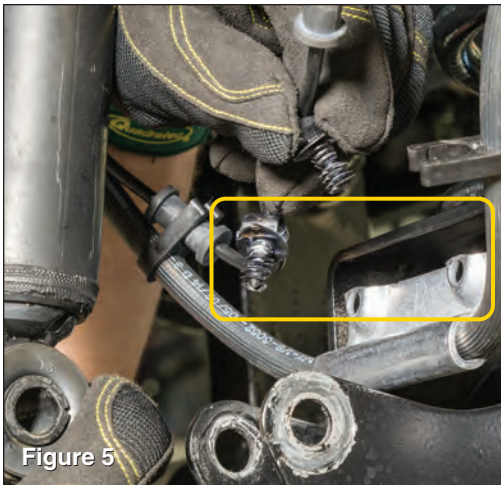

Figure 5
*On 2011 and newer models disconnect the ABS lines from brake line bracket (see FIG 5)*